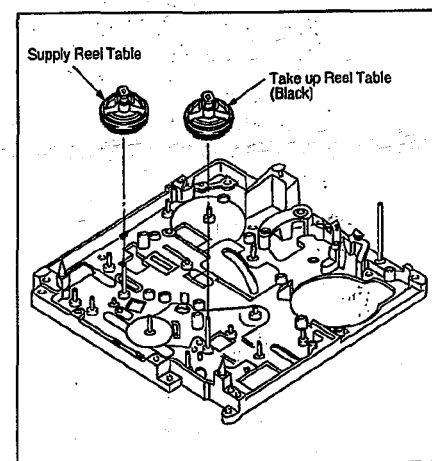

Fig. M15
| 9. Reel Tables & Brakes           | Fig. M15 | Unscrew 3 screws (K) and remove Cover Plate.Remove Supply and Take-up Reel Tables.   |